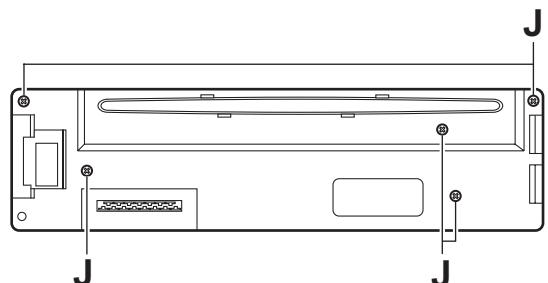

Fig.8
(See Figs.8 to 10)
(1) Remove the five screws **J** on the back side of the front panel assembly. (See Fig.8.)